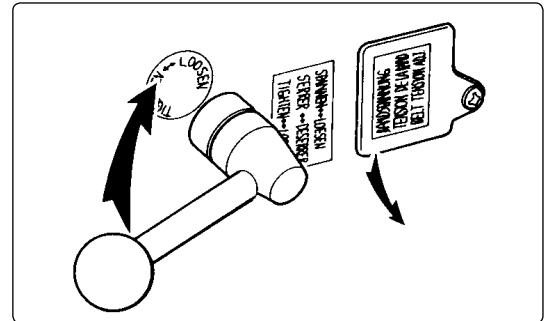

fig 8
- 6.2.2. Locate cover plate to the right of the tension lever. Loosen screw and open the cover plate (fig 8).